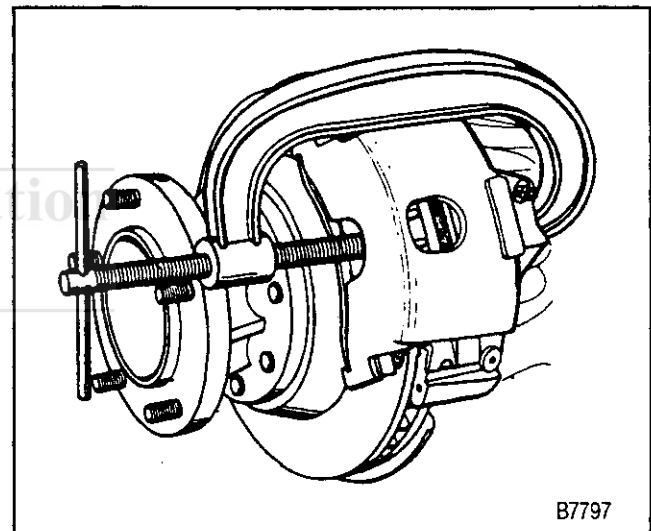
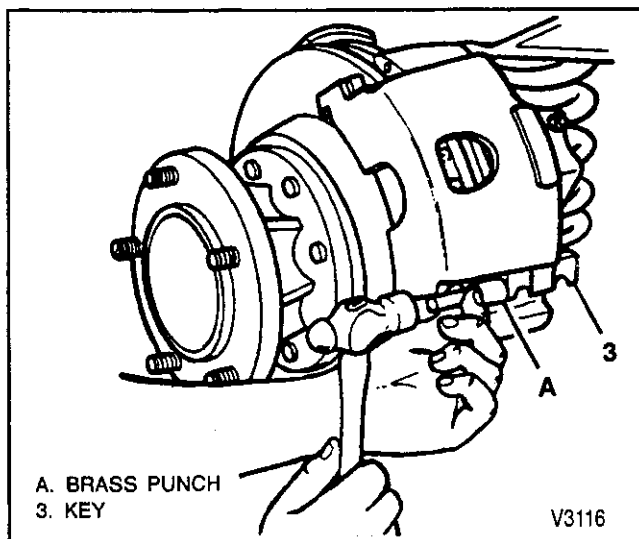

Figure 16—Compressing the Caliper Piston
Figure 18—Removing the Caliper Support Key
5. Position a C-clamp and tighten until piston bottoms in bore (figure 16).
8. Bolt (2).
9. Support key (3) and spring (4).
- Use a brass punch and a hammer to drive the support key out (figure 18).
10. Caliper assembly (1).